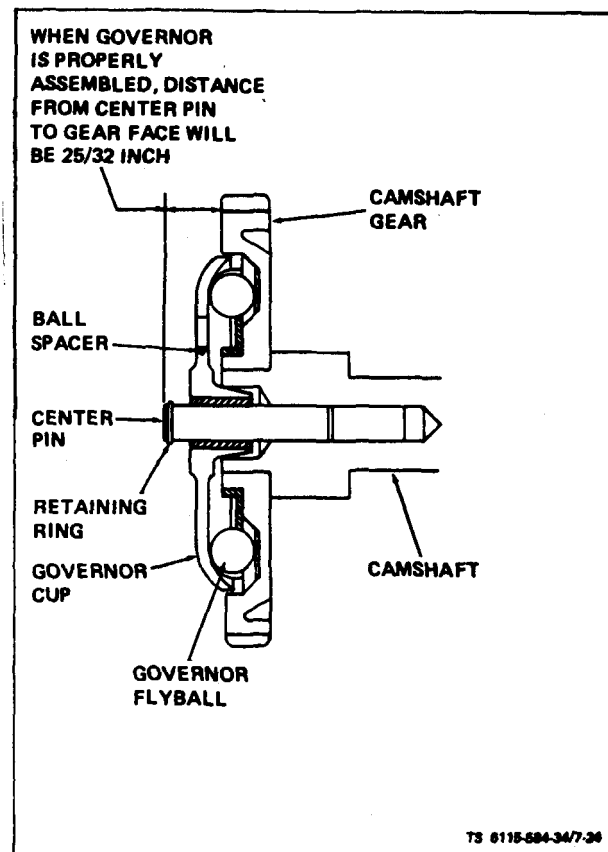

Figure 7-24. Governor Cup Assembly
a. Remove (see figure 7-24). On ASK equipped generator refer to Operation and Organizational Maintenance Manual and remove ASK cover assembly. Remove retaining ring from camshaft center pin and slide cup off. Be sure to catch the ten flyballs that will fall out when cup is removed.
b. Repair. Replace any flyballs that have flat spots or grooves. Replace cup if race surface is grooved or rough. The governor cup must be a free spinning fit on camshaft center pin, but should be replaced if excessively loose or wobbly. Check distance the center pin extends from the camshaft gear, this distance must be  $25/32$  inch to give proper travel distance for the cup (see figure 7-24). If it is less, the engine may race; if more, the cup will not hold the balls properly. If distance is too great, drive or press center pin in. If it is too small, replace pin; it cannot be removed without damaging the surface. If aluminum ball spacer openings are badly worn, replace ball spacer. (Camshaft must be removed for this.)